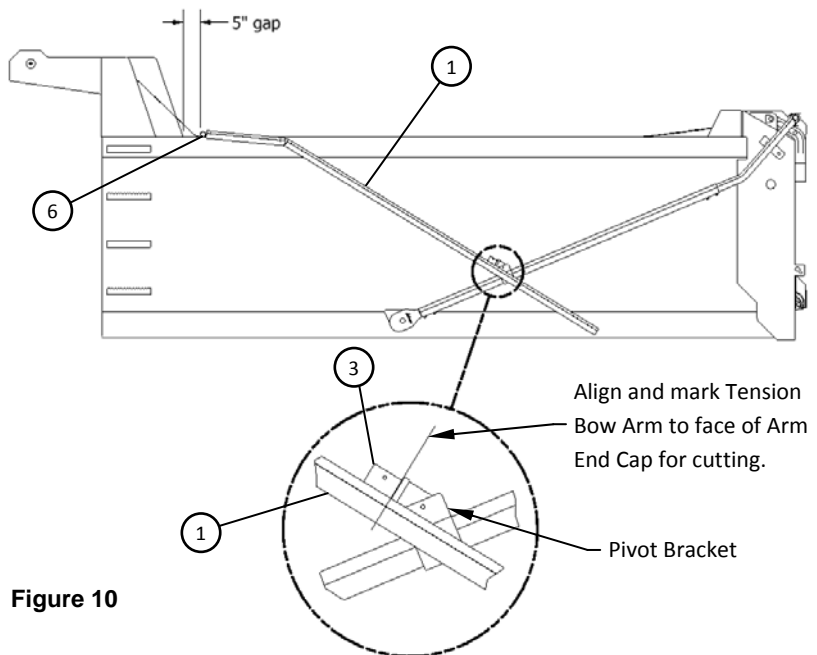

Figure 10
6) **See Figure 10.** Temporarily attach Arm End Pivot Casting (4) to the pivot bracket.